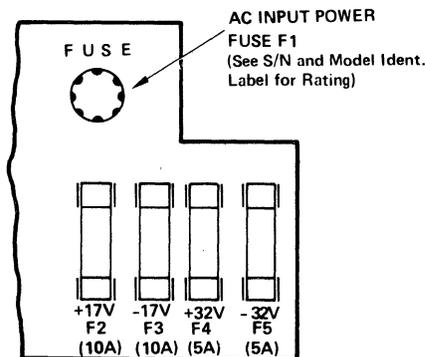

Figure 2-6. Tape Unit Fuses
- f. Check the five fuses located at the lower left corner on the back of the tape unit. These fuses are identified in figure 2-6.